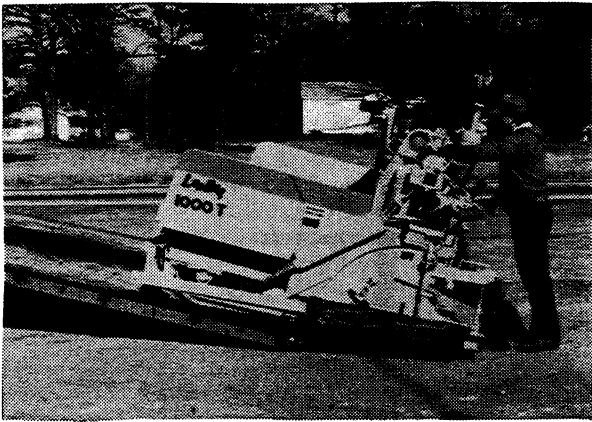

Figure 3-2 – Loading Paver
- G. Throttle -- 1/3 Open (900).
3. Slowly move drive control levers up (forward on 900) and guide the paver up the ramp as shown in Figure 3-2. On the 1000, control speed by the speed control lever which strokes the pump.